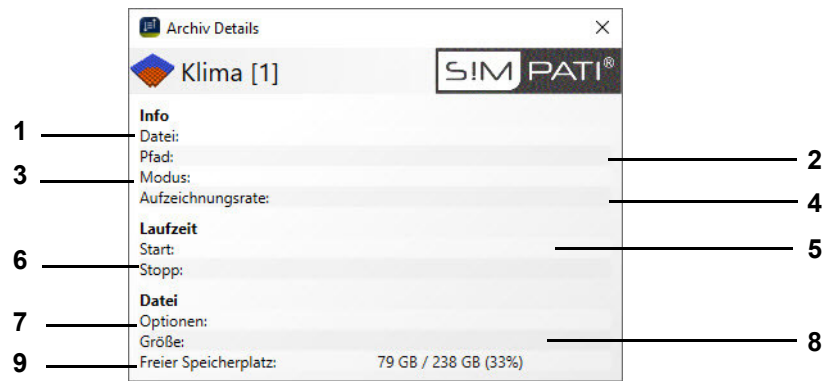

Fig. 10-5 Window with archiving information in automatic/program mode
- 12 If the test is to be recorded, a menu window with archiving information will be available → Fig. 10-5 »Window with archiving information in automatic/program mode« (page 91).